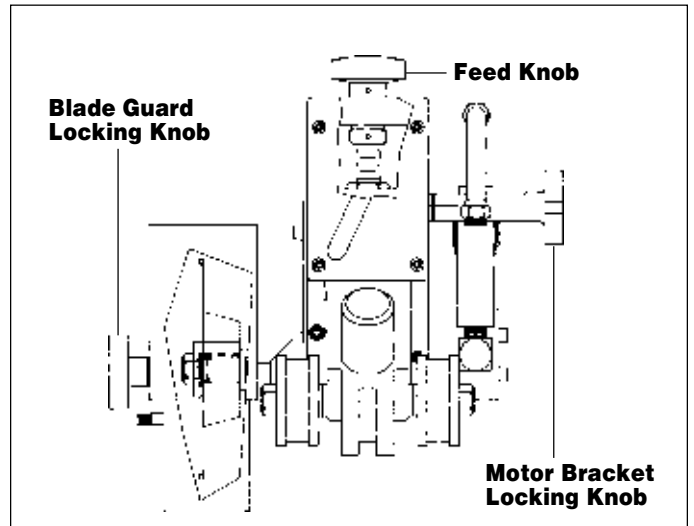

FIG. 2 (Motor Unit)
1. Loosen motor bracket locking knob. (Fig.2)
2. Retract motor bracket to upper most position, by turning feed knob counter clockwise. (Fig. 2.)
2. Turn cutter feed knob clockwise (Fig. 2), to lower motor and cutter close to, but not touching the pipe. Motor bracket locking knob should be tight, yet allow bracket to slide.
1. Tighten motor bracket locking knob. (Fig. 2) (Photo #3)
3. Knowing the thickness of pipe to be cut, turn the feed knob clockwise, (Fig. 2) until the pointer indicates the desired depth of cutter. Allow at least $\frac{1}{4}$ " of blade beyond full wall penetration.
4. Tighten blade guard locking knob approximately $\frac{1}{8}$ " from pipe. (Fig. 2)